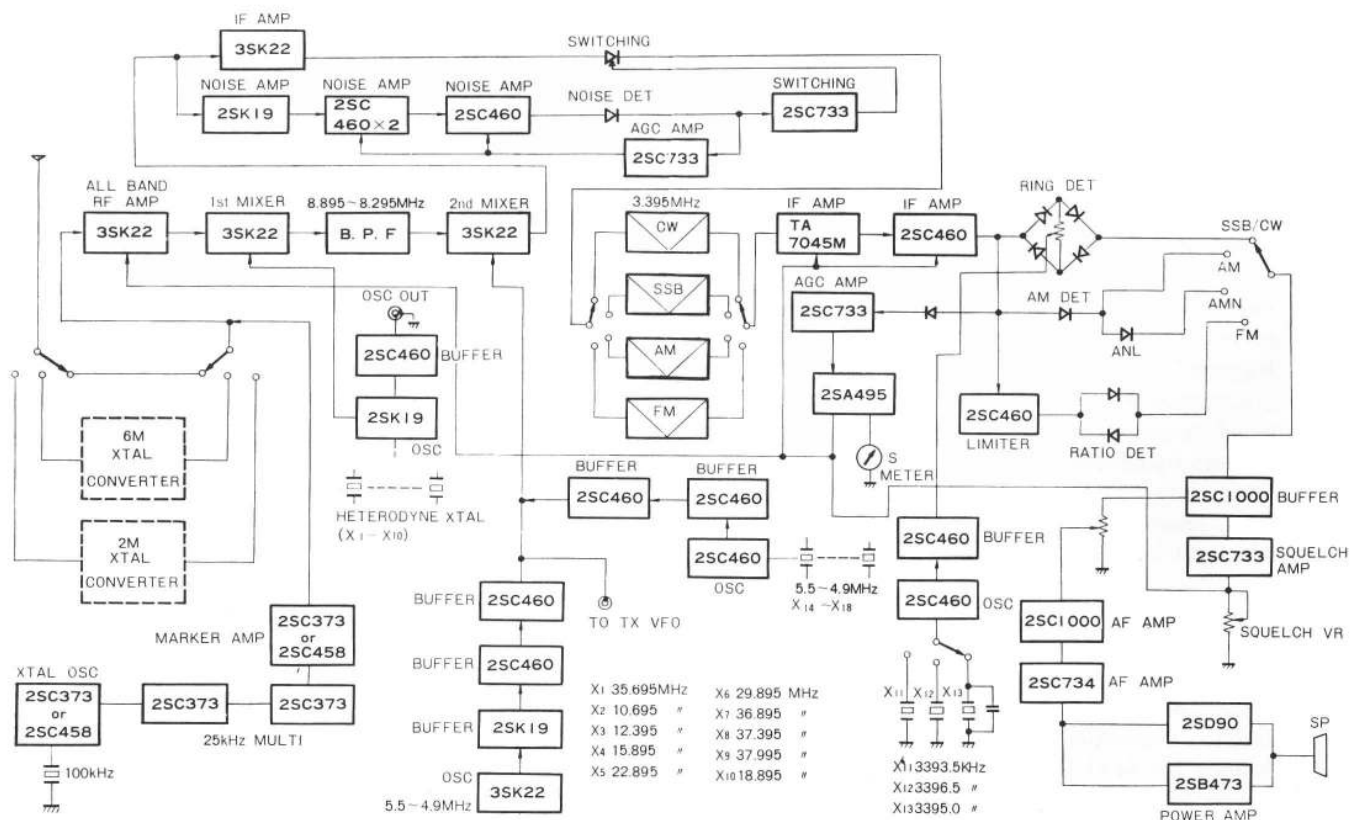

Fig 1 R-599D Block Diagram
The block diagram of model R-599D Receiver is as shown in Fig. 1. This receiver generally operates on the double superheterodyne system, in which the receiving signals ranging from 1.8 to 29.7 MHz including 27 MHz (CB) and the WWV's 10 MHz standard signal are converted by the 1st mixer into the 1st IF signals ranging from 8.895 to 8.295 MHz, which are further converted by the 2nd mixer into the 2nd IF signal of 3.395 MHz.